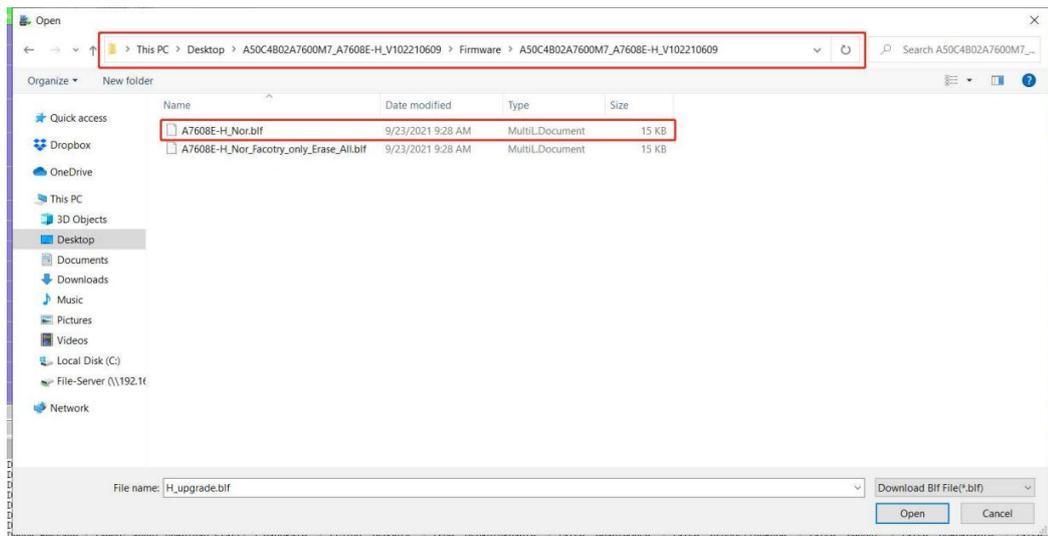

fig.3: .BLF file directory
- **.BLF** file is contained in the unzipped firmware **.rar** folder [figure 3]). You need to unzip the original **.rar** file first. Shown as figure 3.